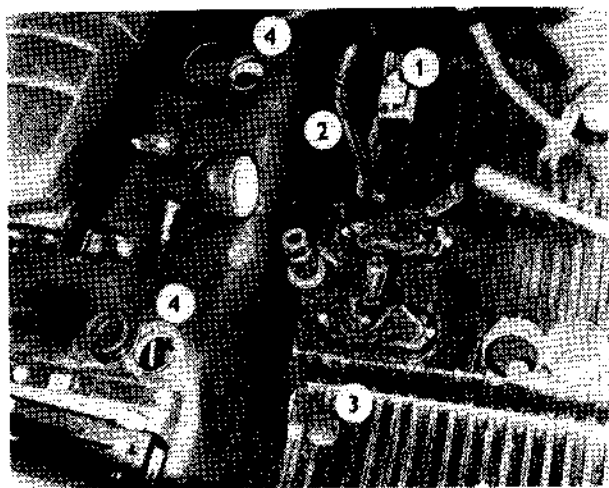

Fig. 21
13. Front drive engagement lever (Fig. 21/2).
3. Differential lock pedal (Fig. 21/3).
5. Torque multiplier pedal (Fig. 21/1).
When increased resistances have creased, the torque multiplier can be put out of operation without any clutch disengagement. The torque multiplier is actuated by a pedal (Fig. 21/1). The tractor equipped with torque multiplier is provided with a hand-operated PTO clutch disengagement (Fig. 19/1).